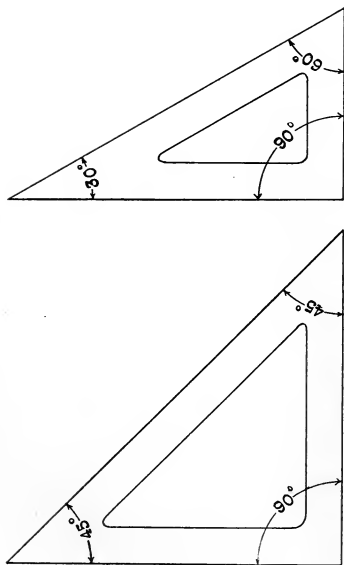

Fig. 5. 45 and 60 Degree Triangle.
6. TRIANGLES. The best triangles are made of transparent celluloid, not less than $\frac{1}{16}$ in. thick. Triangles of 45 and 60 degrees are generally used. (See Fig. 5).